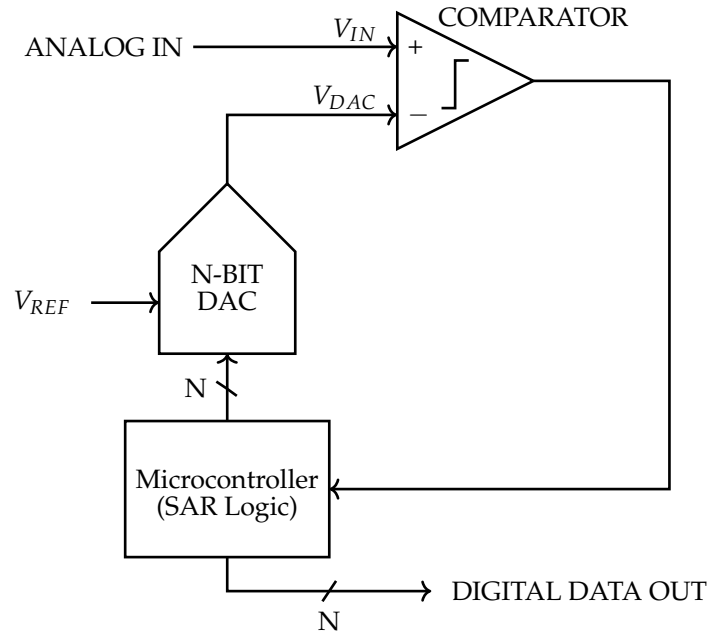

Figure 9: SAR ADC circuit diagram
Figure 9 illustrates a high-level circuit diagram of a SAR ADC. The analog input voltage is one of the inputs to the comparator. The other comparator input,  $V_{DAC}$ , is the DAC voltage output, i.e. the analog representation of your code/guess. The comparator compares these two values and outputs a logical high (1) if  $V_{IN} \geq V_{DAC}$  or a logical low (0) if  $V_{IN} < V_{DAC}$ . This comparator decision then feeds into the SAR logic, implemented in a microcontroller in this case. This logic is basically the brain that implements the binary search pattern, deciding which bits in the code need to be changed. The updated code then propagates back to the DAC, which updates  $V_{DAC}$ , and the cycle continues  $N$  times. Once this is done, the final  $N$ -bit output code comes out of the register storage units for use by other circuits. If you're wondering what  $V_{REF}$  does for the DAC, recall from Homework 1 that it tells
We will now analyze the operation of a 4-bit SAR ADC with the input voltage range between 0 V and 5 V and output code range between 0000 (0) and 1111 (15). In other words,  $V_{REF}$  is 5 V and  $0V < V_{in} < 5V$  in Figure 9.